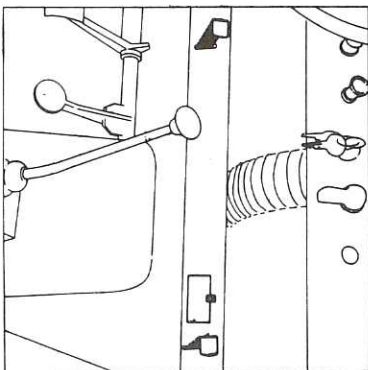
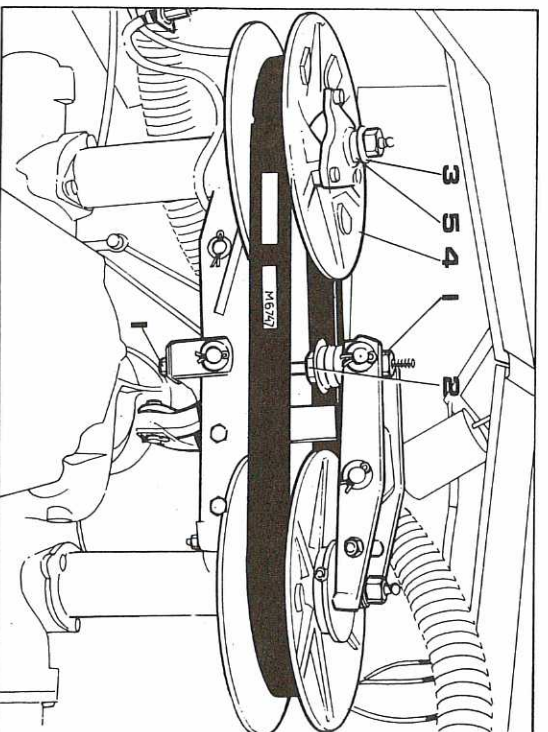

Fig. 5
Fig. 14
The belt is tensioned by slackening the two nuts 1, fig. 14, an equal amount. The lower nut is slackened from inside the cab through an opening on the right-hand heater and defroster control, see fig. 5.
2. Bend down the tab washer 3, fig. 14, screw off the shaft nut on the right-hand steering shaft and pull off the upper half 4 of the variator pulley.